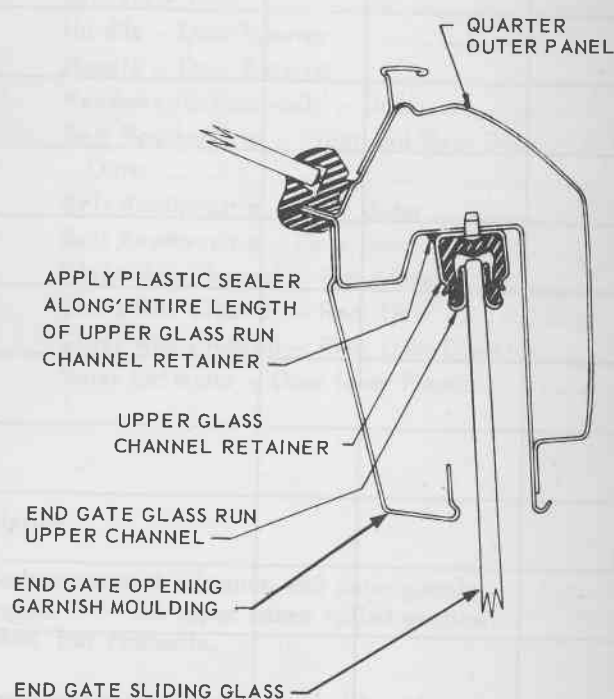

FIG. 6 - 8
3. Remove bolts securing glass run channel lower retainer assembly to side of end gate inner panel and remove assembly (see Fig. 6 - 1 or 6 - 2).
1. Open end gate and remove inner garnish mouldings from end gate upper aperture (see Fig. 6 - 8).
2. Apply plastic sealer between leading outer side of retainer and upper aperture for entire length of retainer (see Fig. 6 - 8).